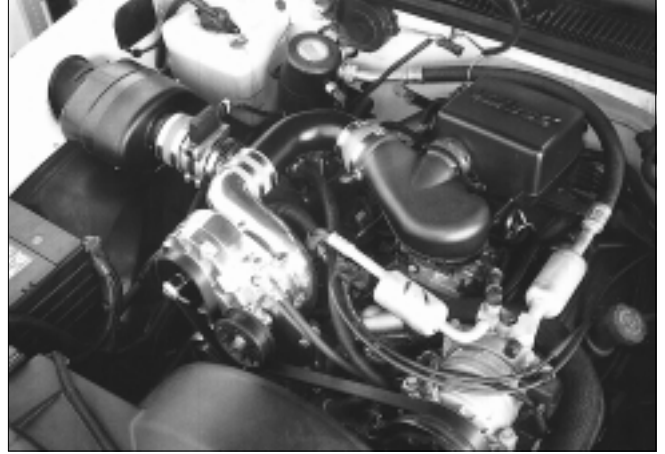

Fig. 12-a
- B. Check all fittings, nuts, bolts and clamps for tightness. Pay particular attention to oil and fuel lines around moving parts, sharp edges and exhaust system parts. Make sure all wires and lines are properly secured with clamps or tie wraps. (See Fig. 12-a.)
- H. Read the **STREET SUPERCHARGER SYSTEM OWNER'S MANUAL AND RETURN THE WARRANTY REGISTRATION FORM** within thirty (30) days of purchasing your supercharger system to qualify.